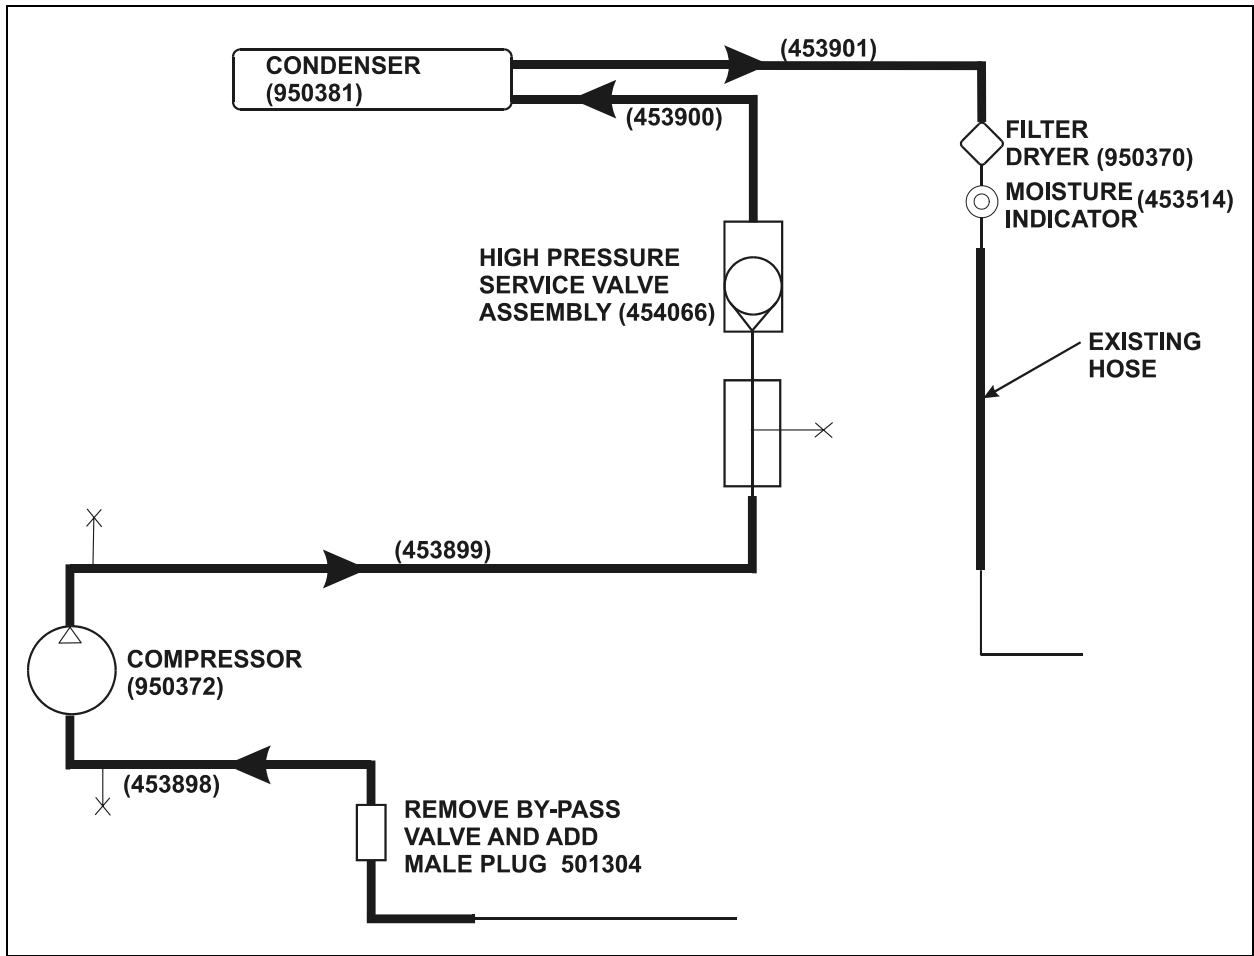

FIGURE 6: NEW INSTALLATION
6. Disconnect low pressure hose then remove by-pass valve and high pressure switch. Screw on male plug (501304) to the low pressure switch "T" connector (refer to figure 6).